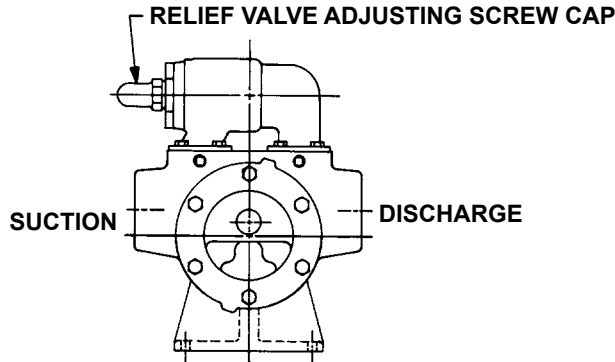

FIGURE 3
4. The relief valve adjusting screw cap must always point towards the suction side of the pump. If pump rotation is reversed, remove the pressure relief valve and turn end for end. Refer to **Figure 3** below.